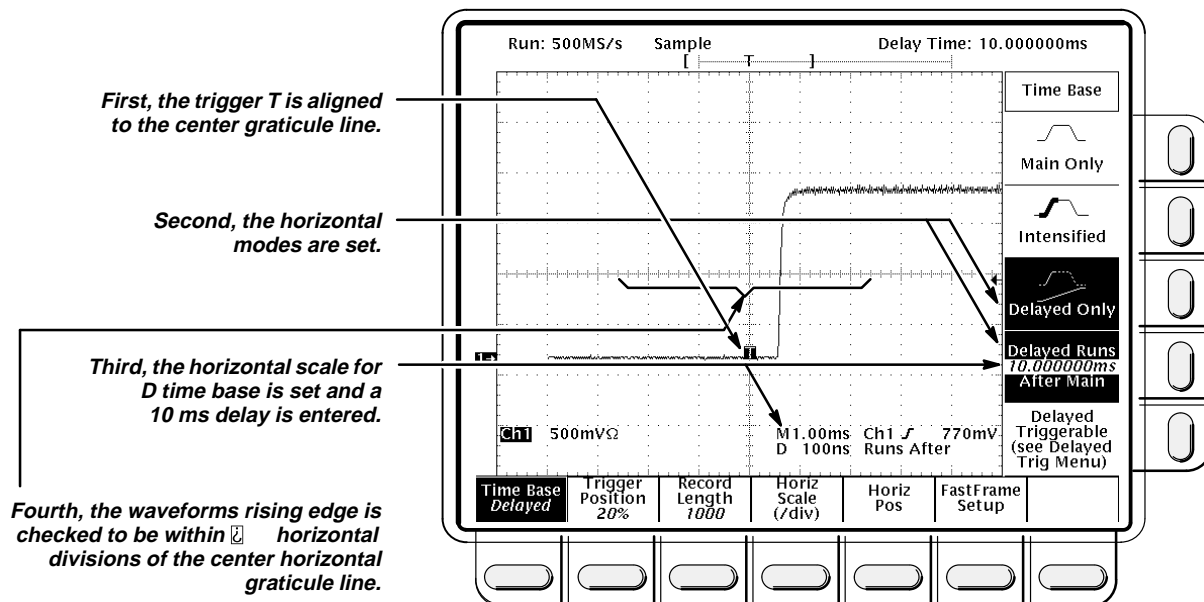

Figure 1-13: Measurement of Accuracy — Long-Term and Delay-Time
- c. *Check long-term sample rate and delay time accuracies against limits:* CHECK that the rising edge of the marker crosses the center horizontal graticule line at a point within $\frac{1}{2}$ center graticule. See Figure 1-13.